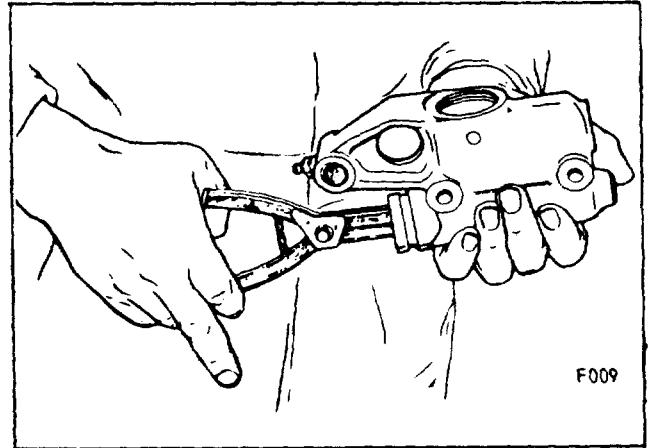

Figure 12.
**NOTE:** Burrs in the by-pass port are caused by honing the cylinder wall and probing the by-pass port. These must be removed, otherwise, the primary cup may be damaged during assembly or brake operation. Figure 12 illustrates using a Wagner de-burring tool.